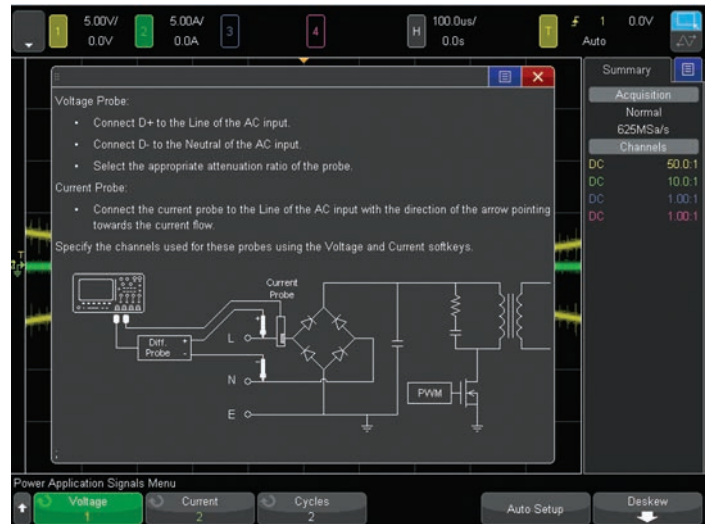

Figure 8. Connections diagram for the power quality measurement.
7. Connect the N2790A high-voltage differential active probe from the scope's channel-1 input to Line (red lead) and Neutral (black lead) as illustrated in the connections diagram shown in Figure 8. If using Keysight's SMPS training kit, connect the probe to TP2 (red lead) and TP1 (black lead).